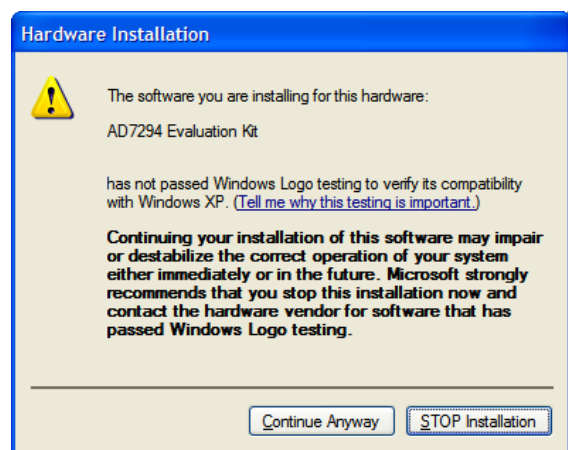

Figure 9. Expected Warning Message
5. A warning message appears (see Figure 9), indicating that the new hardware you are installing (AD7294 evaluation kit) has not passed the Windows logo testing to verify compatibility with Windows XP. This error appears because this is an evaluation setup installation and is not meant to be used in a production environment.